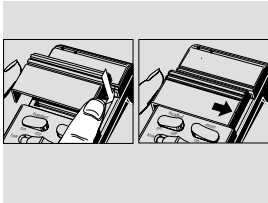

Figure 4-5. Replacing the Battery Lid.
5. To replace the battery lid, align it at the right-hand side of the battery compartment and press down. Then slide it to the right. See Figure 4-5.